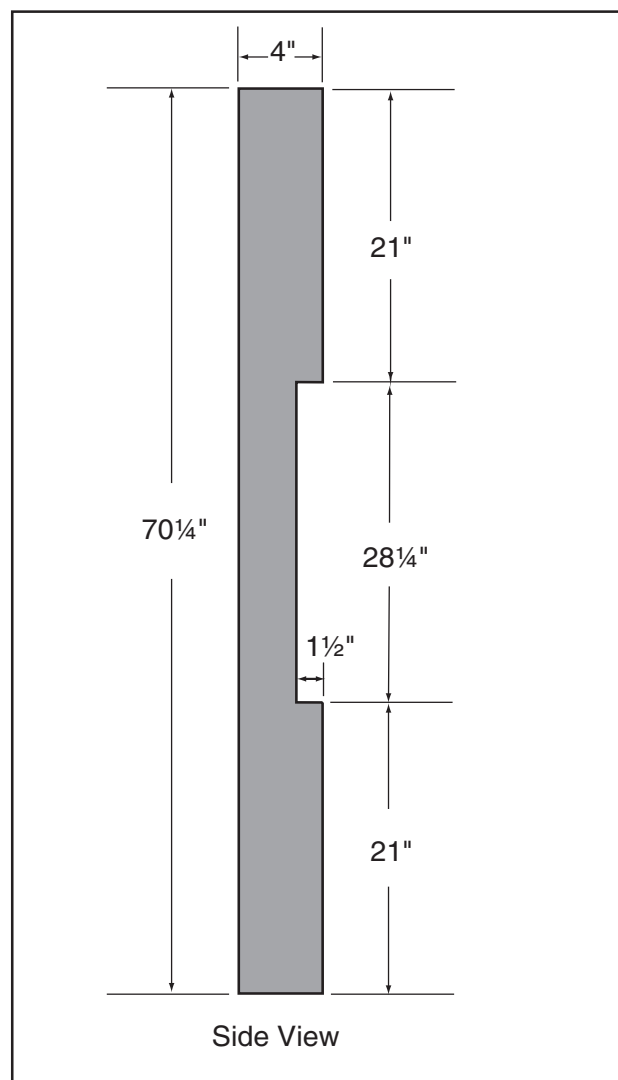

Figure 84. Dimensions of coplanarity gauge.
1. The body of the bandsaw does not allow you to place a regular straightedge across both wheels at the same time. We’ve found a simple way to overcome this situation. All you need is a 70 $\frac{1}{4}$ " x 2" x 4" board, a jointer and a circular saw. Run the 2" x 4" across a jointer on the side to be placed against the wheels, then cut a 1 $\frac{1}{2}$ " x 28 $\frac{1}{4}$ " notch out of the center. Refer to **Figure 84** for more details on how to make this gauge.